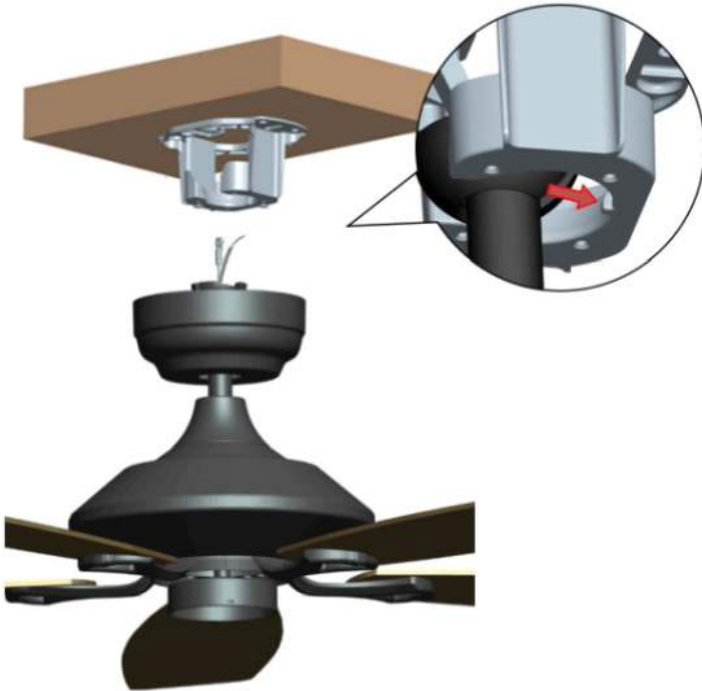

Fig 5.1
5.1 Hang the assembled ceiling fan on the mounting bracket that mounted to the ceiling as shown in **Fig 5.1**, pay attention to the enlarged image as shown in **Fig 5.1**. Install the ball end of the downrod into the opening of mounting bracket. Rotate the downrod until the tab in the mounting bracket is seated in the slot in the downrod ball.